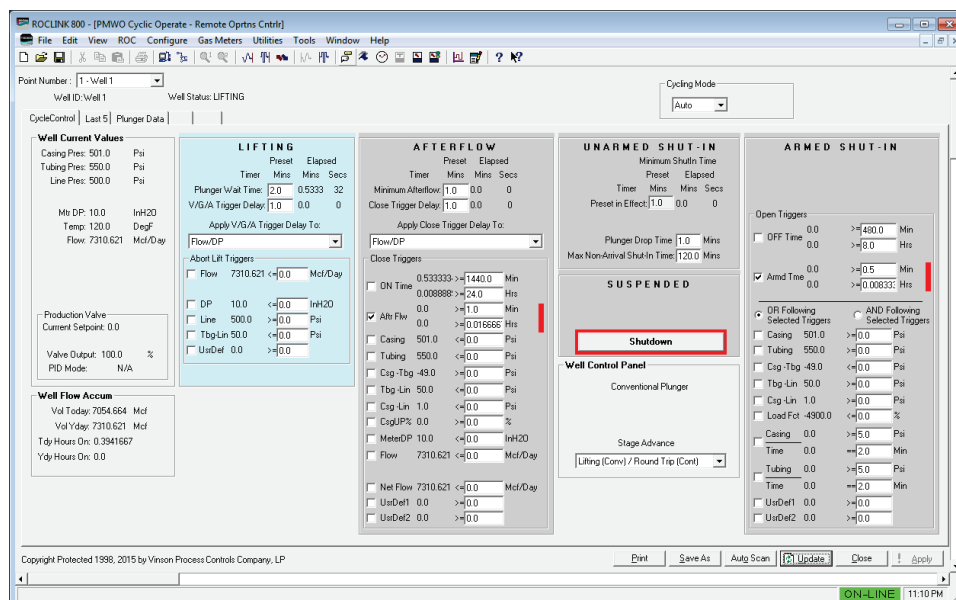

Figure 107. Plunger Lift Simulation – CycleControl tab, with the Lifting State highlighted
- Wait for the Armed Shut-In time trigger to become true, and for the program state to transition to **Lifting**, as shown in *Figure 107*.